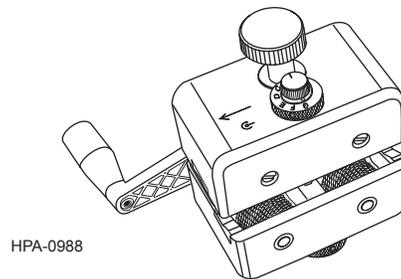

Figure 25
Step 12: The Universal Access Tool III is designed to access the fibers of a single-tube cable in a mid-span location where slack is present (Figure 25). Use the UAT-III to remove the buffer tube as described in the manual provided with the tool, SRP-004-074, Universal Access Tool III Operating Instructions.